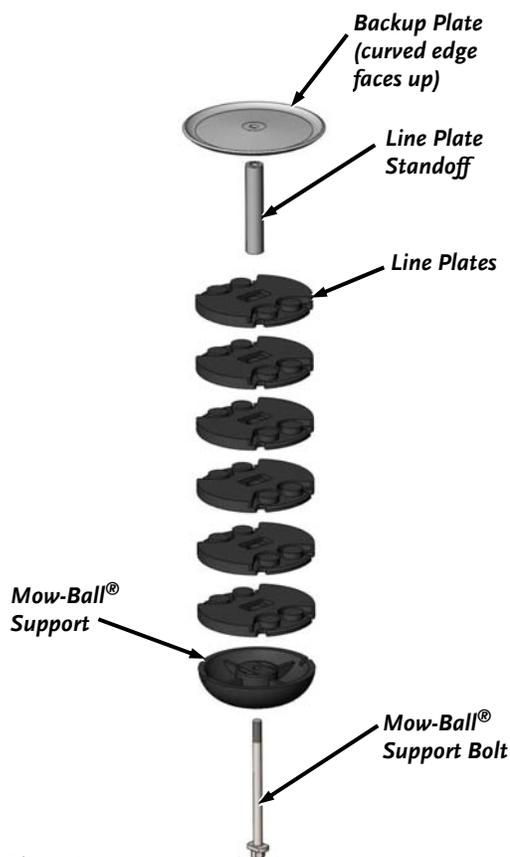

Figure 28
Improper installation can cause damage to the trimmer bearings. Following these directions carefully will protect your machine from damage. Reassemble the components in the order shown in figure 28.
- Position the Backup Plate with the lip of the curve facing up (Figure 28).